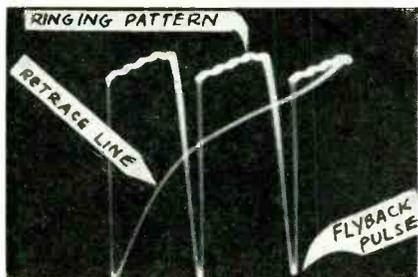

Fig. 2—Low frequency ringing effect in Hor. Output circuit.
A. No. As shown in Fig. 2, situations may arise in which the ringing frequency is much lower.